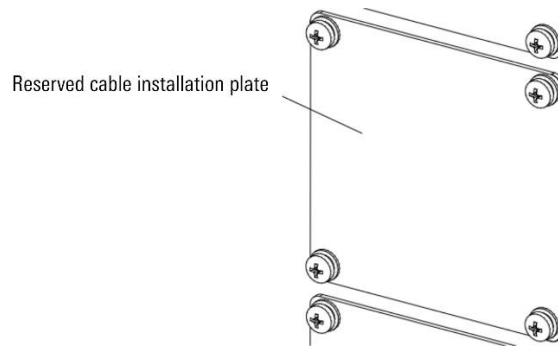
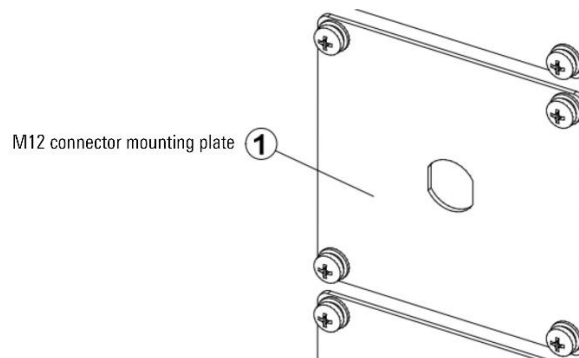

Figure 17-6 Reserved cable installation plate
Figure 17-7 M12 connector mounting plate
- Step1. Remove the original reserved cable mounting plate (refer to Figure 17-6) with a cross screwdriver and install the M12 connector mounting plate (refer to Figure 17-7) on the cabinet.